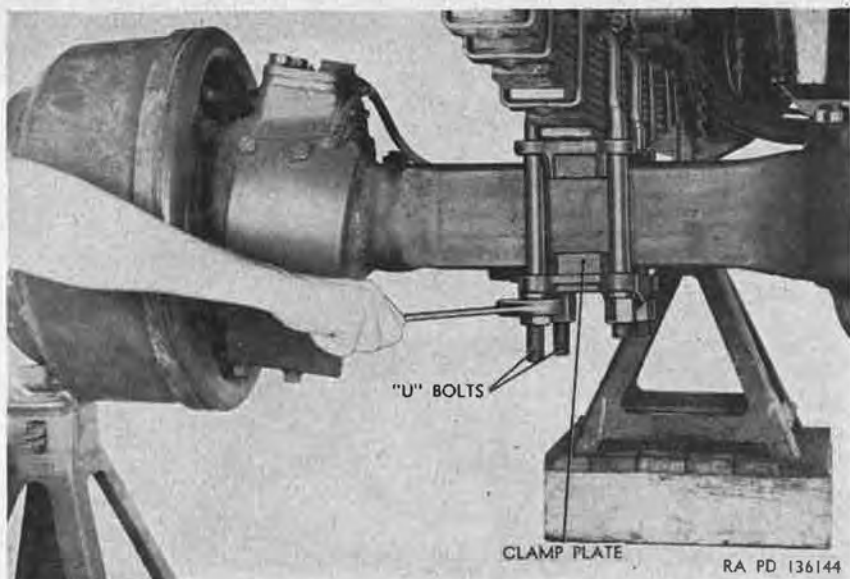

Figure 224. Removing U-bolt clamp plate.
- (6) *Remove U-bolt clamp plates* (fig. 224). Remove four nuts and lockwashers from two U-bolts securing axle housing to right front spring, and remove clamp plate from U-bolts. Repeat above operations at left front spring.
Release hydraulic jack and pull out from under truck. Position clamp plate (fig. 224) on the two U-bolts at underside of right end of axle housing, and install two lockwashers and nuts on each U-bolt. Repeat above operation at left end of axle housing. Tighten the eight clamp plate retaining nuts (on four U-bolts), using a torque wrench, to 300 to 400 pound-feet torque.